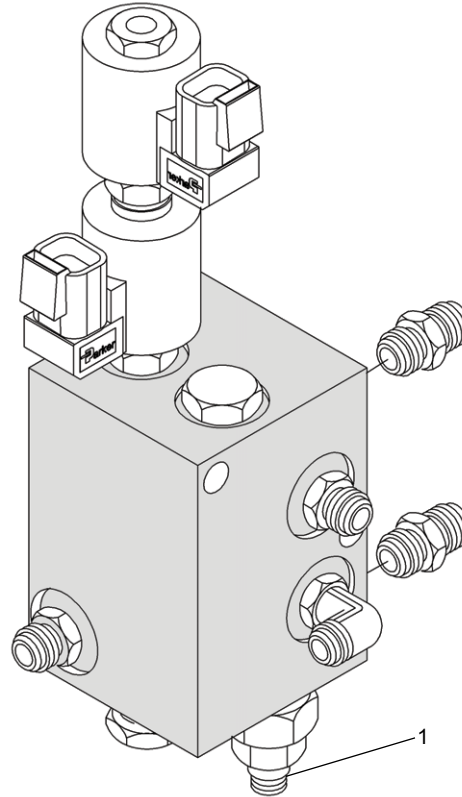

FIGURE 2-16
1. With the engine off, remove the hose running from the Cab Tilt Manifold "A" port to the cylinder rod port at the cylinder and cap or plug the adapter in the cylinder (see Figure 2-16).
3. Start engine and idle. Attempt to lower the cab. Gauge should read 2500 psi  $\pm$ 100. If not, adjust the relief valve "in" to increase or "out" to decrease pressure (see Figure 2-16).